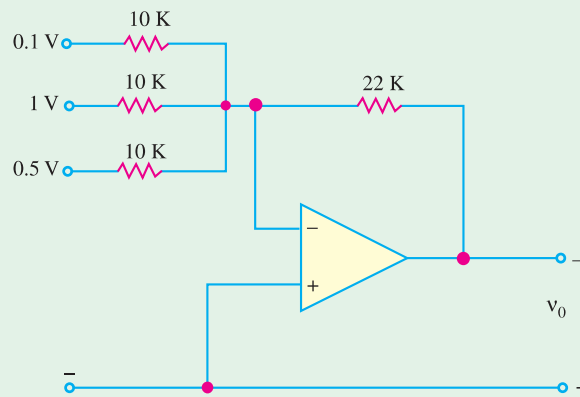

Fig. 68.41
3. Determine the value of output voltage for the summing circuit shown in Fig. 68.41. (3.52 V)